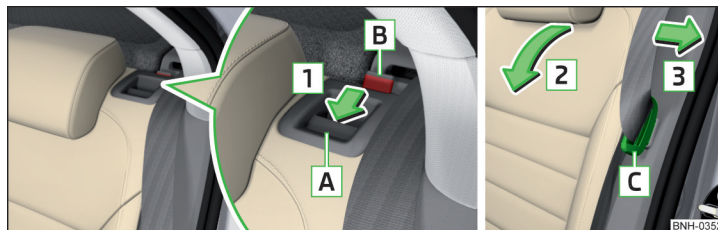

Fig. 58 Fold seat backrest forwards / pull seat belt to the side panel and ready position of the seat belt
- Insert the belt buckle latching element **C** of the seat belt into the opening in the side panel - ready position » Fig. 58.
- Insert the belt buckle latching elements **C** of the outer belts into the openings in the side panel - ready position » Fig. 58.
- Pull the rear outer seat belt to the side panel in the direction of arrow **3** » Fig. 58.
- › Insert the belt buckle latching elements **C** of the outer belts into the openings in the side panel - ready position » Fig. 58.